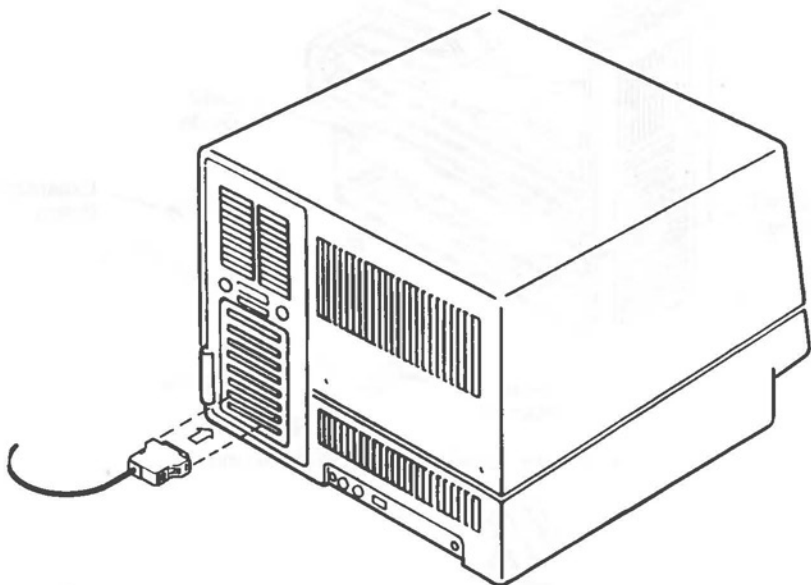

Figure 3-8 Option Cable Attachment
1. Make a note of their positions, and disconnect any cables that may be connected to the exterior of the card rack assembly. (See Figure 3-8.)
8. Bring the connecting plug up to the opening in the grill at the back of the computer and attach the cable to the board. If the cable requires retaining screws, then install these now (see Figure 3-8).